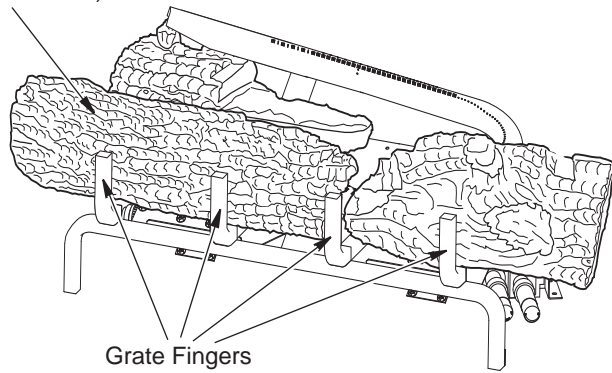

Figure 18 - Installing Front Left Log
- Find the front left log (LMF24GTA/B or LMF24MOA/B models: D-059, LMF30GTA/B or LMF30MOA/B models: D-017, LMF36GTA/B or LMF36MOA/B models: D-025). See **Figures 18, 18A, and 18B**. The log has a rectangular stand off on the bottom that fits against the lip on the black metal base as shown in **Figure 18A**. The bottom of this log has a slot that fits over the second bar on the grate as shown in **Figure 18B**. Place the log on the base assembly as shown in figures.